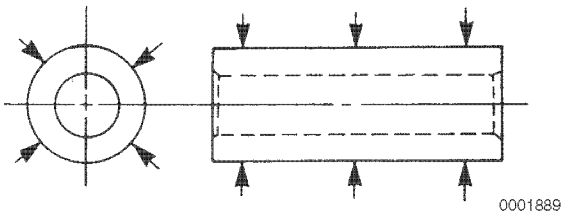

Figure 6-52
7. Measure the outside diameter of the wrist pin in three places and at 90° (**Figure 6-52**). See *Piston on page 6-10* for specifications. Record the measurements.